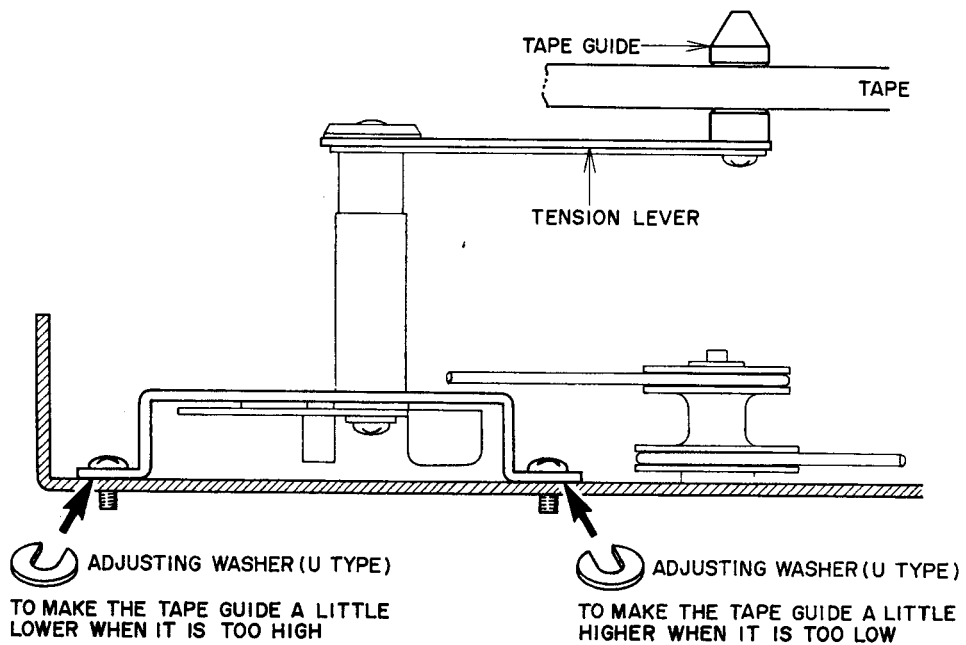

Fig. 16
Thread tape over left and right tension levers and over the left and right tape guides properly. Adjust tension lever height by inserting an Adjusting washer (U type) as shown in Fig. 16 so that at Fwd mode, the tape travels on the center of the tape guide.
**NOTE:** The right hand side tape guide is shown in Fig. 16, but when making the left hand side tension lever height adjustment, the screw on the left is used to make the tape guide higher, and the screw on the right is used to make the tape guide lower.